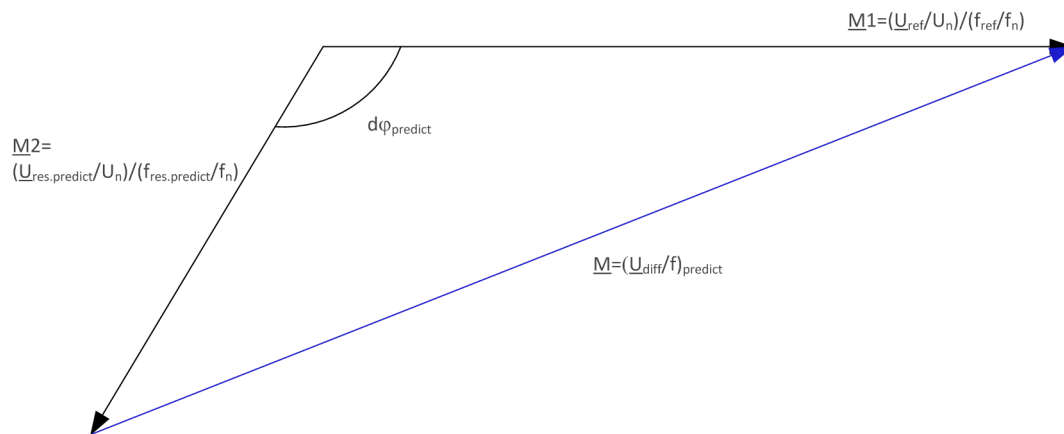

Figure 2-8 Illustration of fast transfer defined in ANSI C50.41-2012
- The resultant volts per hertz between the motor residual volts per hertz phasor and the incoming source volts per hertz phasor at the instant of transfer or reclosing is completed doesn't exceed 1.33 per unit volts per hertz on the motor rated voltage and frequency basis. Refer to Figure 2-8.